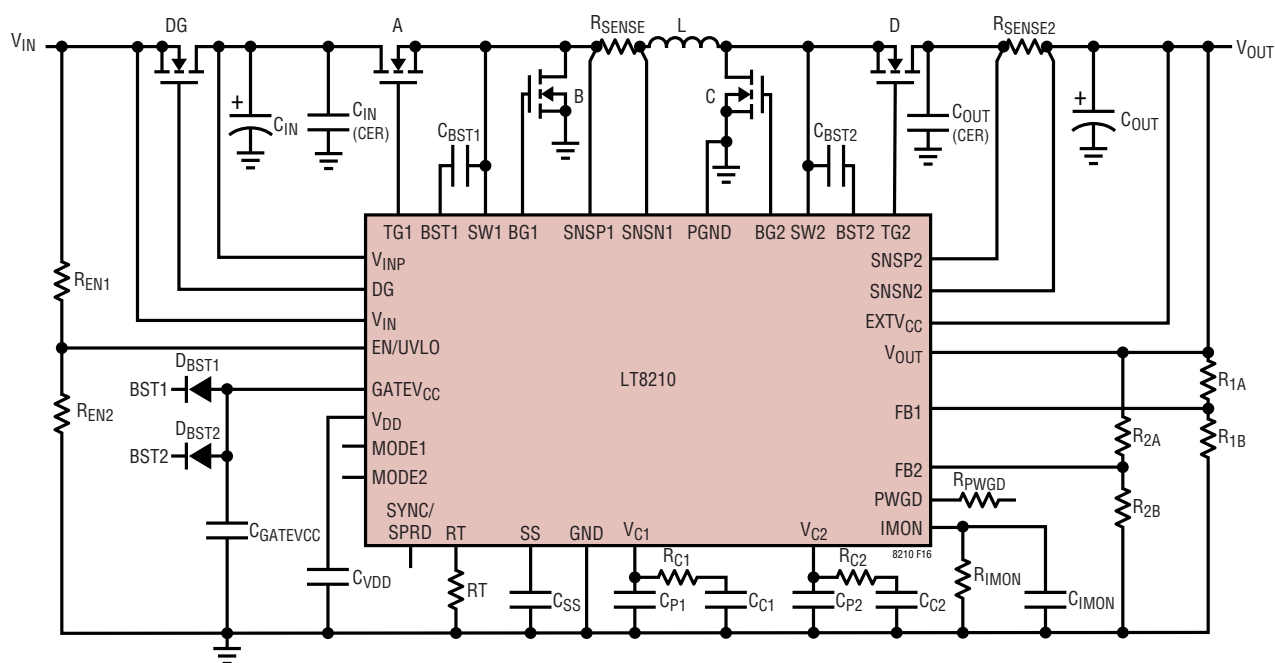
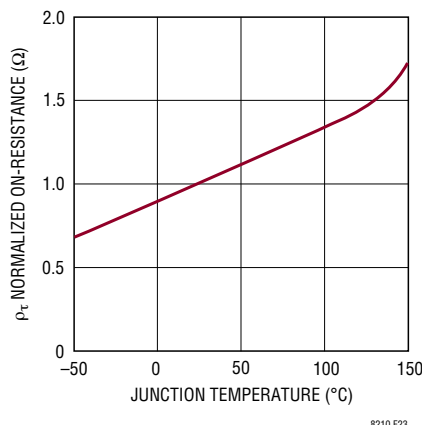

Figure 16. Basic LT8210 Applications Circuit
Figure 23. Normalized  $R_{DS(ON)}$  vs Temperature
The Applications Information section serves as a guideline for selecting external components based on the details of the application. For this section please refer to the basic LT8210 application circuit shown in Figure 16. Component selection typically follows the approach described below:
The LT8210 requires four external N-channel power MOSFETs (switches A, B, C, D in Figure 16). The gate drive voltage of the LT8210 is typically greater than 10V allowing the use of both logic-level and standard-level threshold devices. The MOSFET maximum  $V_{BR(DSS)}$  and drain current ( $I_D$ ) ratings should exceed worst-case voltage and current conditions of the application with added margin for safety. The maximum continuous drain current of a power MOSFET is de-rated as a function of temperature with that information commonly available in the data sheet. It is important to consider power dissipation when selecting power MOSFETs. The most efficient circuit will use MOSFETs that dissipate the least amount of power. Dissipated power and the resulting temperature rise in external components will set the upper bound on the power that can be delivered by the LT8210. MOSFET power dissipation comes from two primary components: (1)  $I^2R$  conduction losses when the switch is fully turned “on” and drain current is flowing, and (2) power dissipated while the switch is turning “on” or “off”. Conduction losses are independent of frequency. Switching losses, on the other hand, scale with frequency and voltage. Generally speaking, conduction losses are dominant at higher currents and lower voltages, whereas switching losses tend to dominate at lower currents and higher voltages. Accurately predicting MOSFET power dissipation is a complex problem that is best suited to efficiency calculators such as that included in LTpowerCAD® II. That being said, efficiency calculators are no substitute for real world measurements. The following section provides approximations of the main source(s) of power dissipation for switches A, B, C, and D as a function of the input and output voltages and switching region. The purpose is to guide MOSFET selection by determining where the majority of power is being dissipated. In the following equations  $\rho_\tau$  is a normalization factor (unity at 25°C) accounting for the significant variation in on-resistance with temperature, typically 0.4%/°C as shown in Figure 23. For a maximum junction temperature of 125°C, using a value of  $\rho_\tau = 1.5$  is reasonable.  $Q_{SW}$  is the switching charge and can be approximated as  $Q_{SW} = Q_{GD} + Q_{GS}/2$  if not explicitly stated in the MOSFET data sheet.